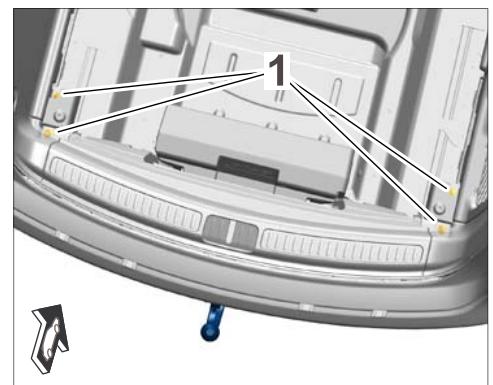

Figure 18
3.3.1 Insert towbar system guide profile into the longitudinal member on the vehicle, position it and secure it with four new screws, M10 x 105 x 45 (⇒ *Figure 18*).